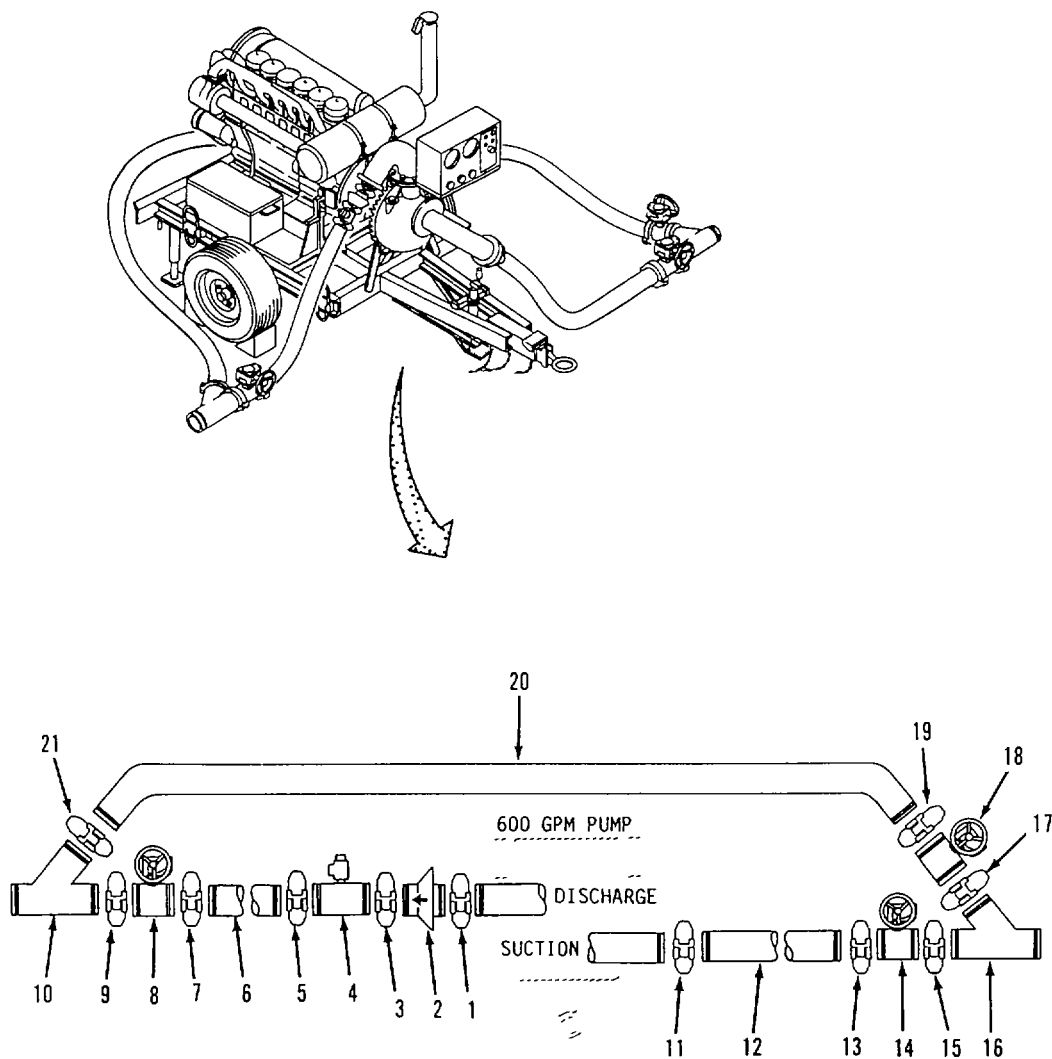

Figure 2-40. Boost Pumping Station Disassembly.
- h. Disassemble Boost Pumping Stations. Refer to figure 2-40.